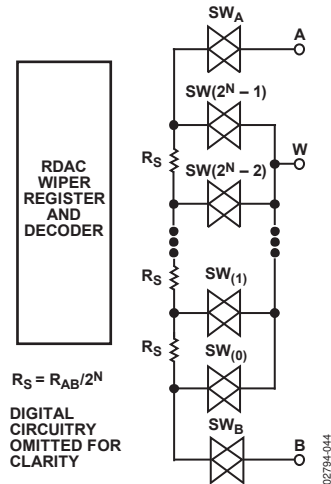

Figure 43. Equivalent RDAC Structure
The patent-pending RDAC contains multiple strings of equal resistor segments, with an array of analog switches that act as the wiper connection. The number of positions is the resolution of the device. The AD5233 has 64 connection points, allowing it to provide better than 1.5% set ability resolution. Figure 43 shows an equivalent structure of the connections between the three terminals of the RDAC. The SWA and SWB are always on, while the switches, SW(0) to SW(2N-1), are on, one at a time, depending on the resistance position decoded from the data bits. Because the switch is not ideal, there is a 15 Ω wiper resistance, Rw. Wiper resistance is a function of supply voltage and temperature. The lower the supply voltage or the higher the temperature, the higher the resulting wiper resistance. Users should be aware of the wiper resistance dynamics if an accurate prediction of the output resistance is needed.
The 6-bit data-word in the RDAC latch is decoded to select one of the 64 possible settings. The following discussion describes the calculation of resistance (RWB) at different codes of a 10 kΩ part. For VDD = 5 V, the wiper's first connection starts at Terminal B for Data 0x00. RWB(0) is 15 Ω because of the wiper resistance and because it is independent of the nominal resistance. The second connection is the first tap point, where RWB(1) becomes 156 Ω + 15 Ω = 171 Ω for Data 0x01. The third connection is the next tap point, representing RWB(2) = 321 Ω + 15 Ω = 327 Ω for Data 0x02, and so on. Each LSB data value increase moves the wiper up the resistor ladder until the last tap point is reached at RWB(63) = 9858 Ω. See Figure 43 for a simplified diagram of the equivalent RDAC circuit. When RWB is used, Terminal A can be left floating or tied to the wiper.